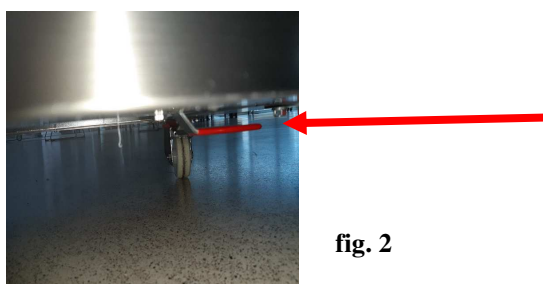

fig. 2
**D** - Check that the unloading handle, located under the machine, is in the "closed" (**fig. 2**)